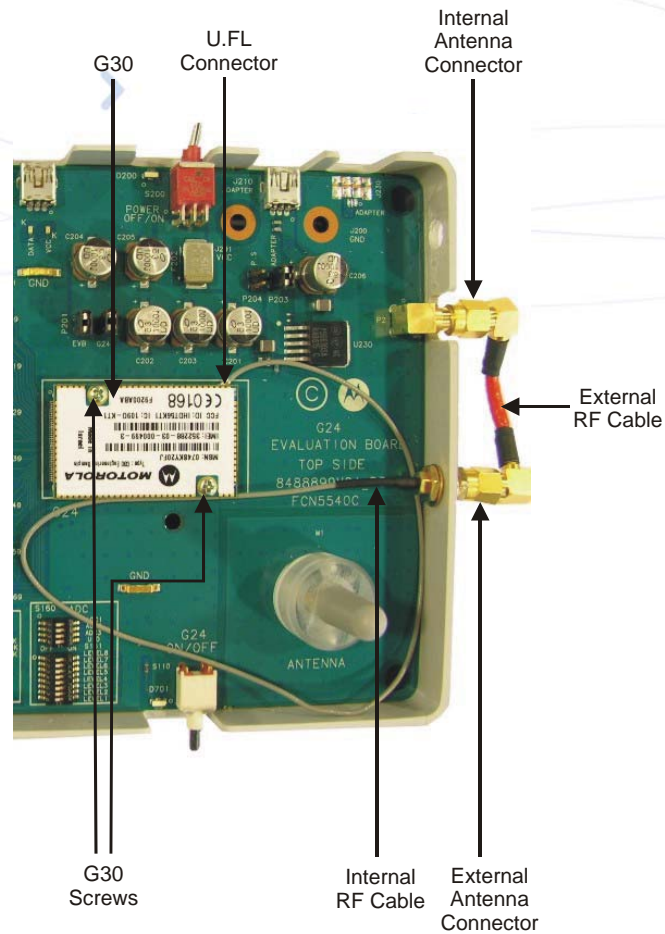

Figure 2-4: Connecting the G30
2. Place the G30 (Figure 2-4) on the Developer Board area, marked by a white rectangle, and push the G30 70-pin connector down into the G30 70-pin connector on the Developer Board.
5. Connect the external RF cable between the External Antenna Connector and the Internal Antenna Connector (Figure 2-4).